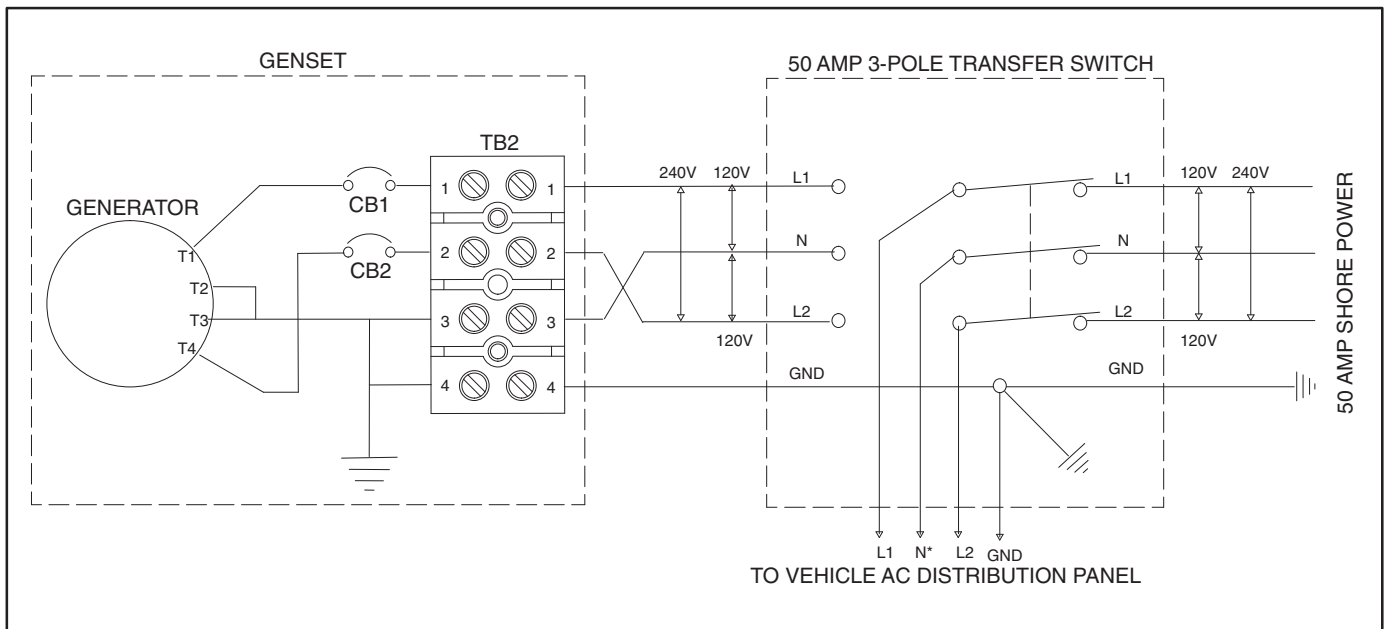

FIGURE 13. TYPICAL AC CONNECTIONS
See Figure 13 for typical connections. Wiring methods must be in accordance with the applicable codes, such as the National Electrical Code (NFPA No. 70).
7. Connect the grounding terminal (Terminal TB4-5, Figure 13) in accordance with applicable codes.
When the vehicle has provision for connecting utility power it must have an approved device to keep the genset and utility from being interconnected. See Figure 13 for typical connections.